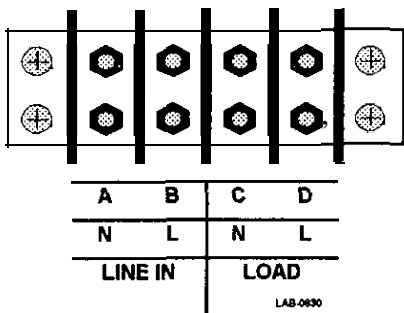

Figure 5
- 404. Now, measure AC input voltage at the input terminals “A” and “B” of “LINE IN.” (See Figure 5.)
- 407. Now, measure AC output voltage. For plug-in models, measure at the output receptacles. For hardwired models, measure between output terminals “C” and “D” of “LOAD OUT.” (See Figure 5.)
409. **Next, measure** the AC output current with the Fluke 80i-410 DC/AC Current Probe (or equivalent); if you do not have this probe, call Best Power Worldwide Service at 1-800-356-5737, or call your local Best Power office. **Set the meter** for AC mV and attach the Fluke 80i-410 current probe; then, clamp the probe to the wires coming from “D”/“L” of “LOAD OUT” on the output terminal. (See Figure 5.)